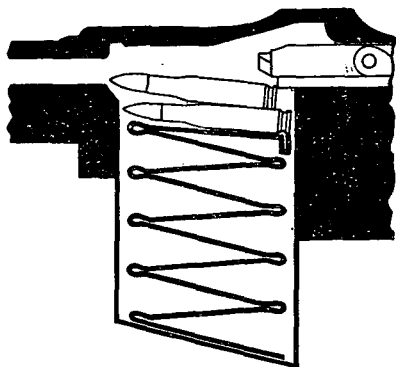

FIGURE 10.—Feeding.
(2) *Feeding* (fig. 10).—The cartridge is carried forward about $\frac{1}{4}$ inch, when the nose of the bullet strikes the bullet ramp or guide on the breech of the barrel and is deflected upward toward the chamber. This action also guides the front end of the cartridge from under the magazine lips. The base of the cartridge approaches the center of the magazine, where the lips are cut away and the opening enlarged, and at this point is forced out of the magazine by the magazine spring. The base of the cartridge slides up the face of the bolt and under the extractor. Should the cartridge fail to